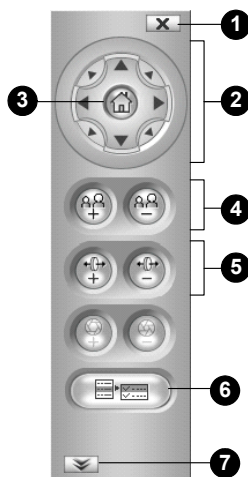

Figure 11-15
On initial installation, it is advised that you adjust the focus for image clarity. Print out the diagram of radiating lines included on Software DVD and hang up the diagram at the surveillance area. Use the **Zoom In / Out** and **Focus In / Out** buttons on the PTZ control panel from the Web interface (No.4 and 5, Figure 11-15) and adjust the PTZ Camera until it displays clear radiating lines as shown in picture on the left.
When the camera view is fuzzy, you may use the auto focus feature to obtain a sharper view. On the PTZ control panel, click the **Option** button (No. 6, Figure 11-15) and select **AF** for automatic focus.
To access PTZ camera settings, click the **Option** button (No. 6, Figure 11-15) on the PTZ control panel and select **Setup**. The setup dialog box appears.
The VISCA OSD Configuration contains three groups of settings: image settings, PTZ settings and system configuration. To access these settings, click the **Option** button (No.6, Figure 11-15), select **Setup** and click **Open**. The dialog box appears. Alternatively, you can click **Digital I / O and PTZ** on the Web interface and select **PTZ Setting**.
- 1 Use one of the **Pan / Tilt Control** buttons (No. 2, Figure 11-15) to move the camera to a desired point in live view.
- 2 To save this Preset point, click the **Option** button (No. 6, Figure 11-15), select **Preset Set** and select the desired Preset number
- 1 Click the **Option** button (No. 6, Figure 11-15), select **Preset Set** and select **Naming**. The dialog box appears.
To start a Preset movement, click the **Option** button (No. 6, Figure 11-15), select **Preset Go**, and select a **Preset** number which has been set previously.
- 1 Click the **Show Preset** button (No. 7, Figure 11-15) to open the number pad.
To stop a Preset movement, click the **Home** button (No. 3, Figure 11-15) or click one of the **Pan / Tilt Control** button (No. 2, Figure 11-15).
To start a Sequence, click the **Option** button (No. 6, Figure 11-15) select **Auto** and select a **Go Sequence** number which you have set previously.
To stop a Sequence, click on a **Pan / Tilt Control** button (No. 2, Figure 11-15) or the **Home** button (No. 3, Figure 11-15).
- 2 On the control panel, click the **Option** button (No. 6, Figure 11-15), select **Auto** and select a **Set Auto Pan** number.
- 4 Click the **Option** button (No. 6, Figure 11-15), select **Auto** and select an **End Auto Pan** number to save this configuration.